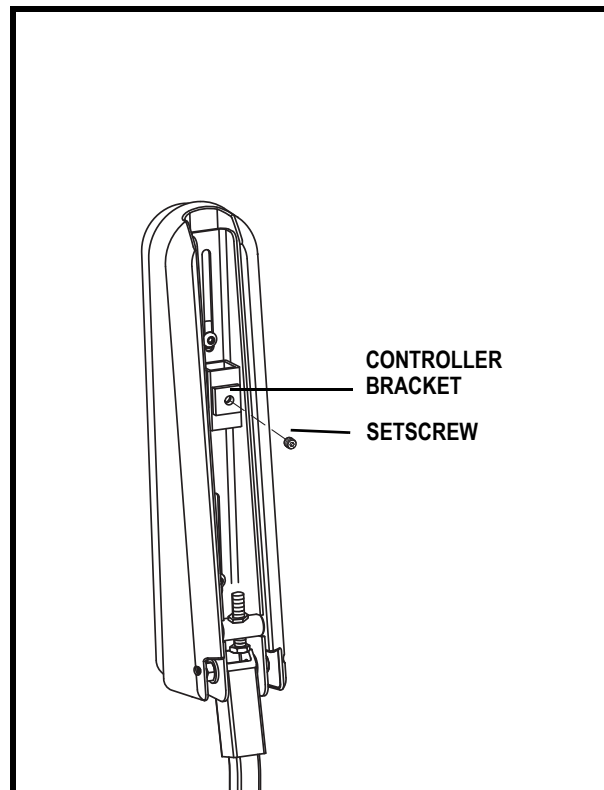

Figure 14. Controller Position
2. Loosen the setscrew on the controller bracket. **See figure 14.**